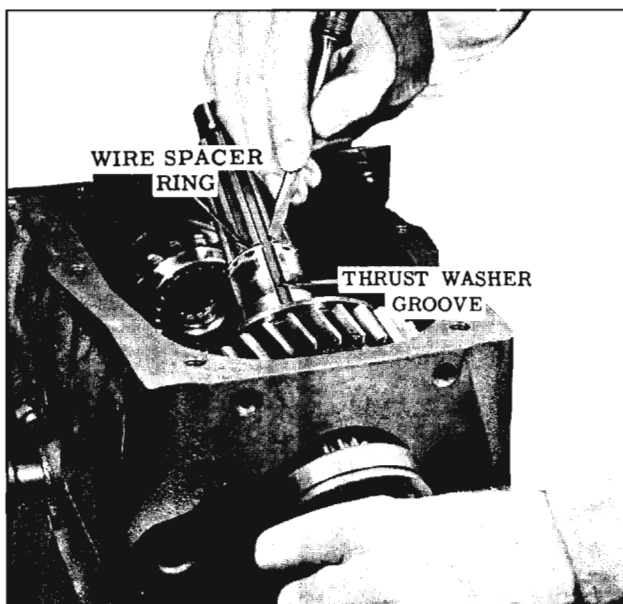

Fig. 11-31 Lining Up Wire Spacer Ring
15. Line up the small wire spacer ring in the ring groove in the main shaft with the machined thrust washer keyway groove on the second speed gear bearing surface. (Fig. 11-31)